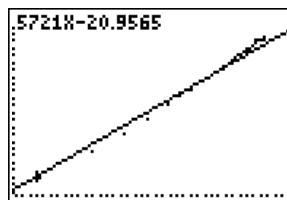

Figure 32
11. Press β to save the formula and draw the line (Figure 32).